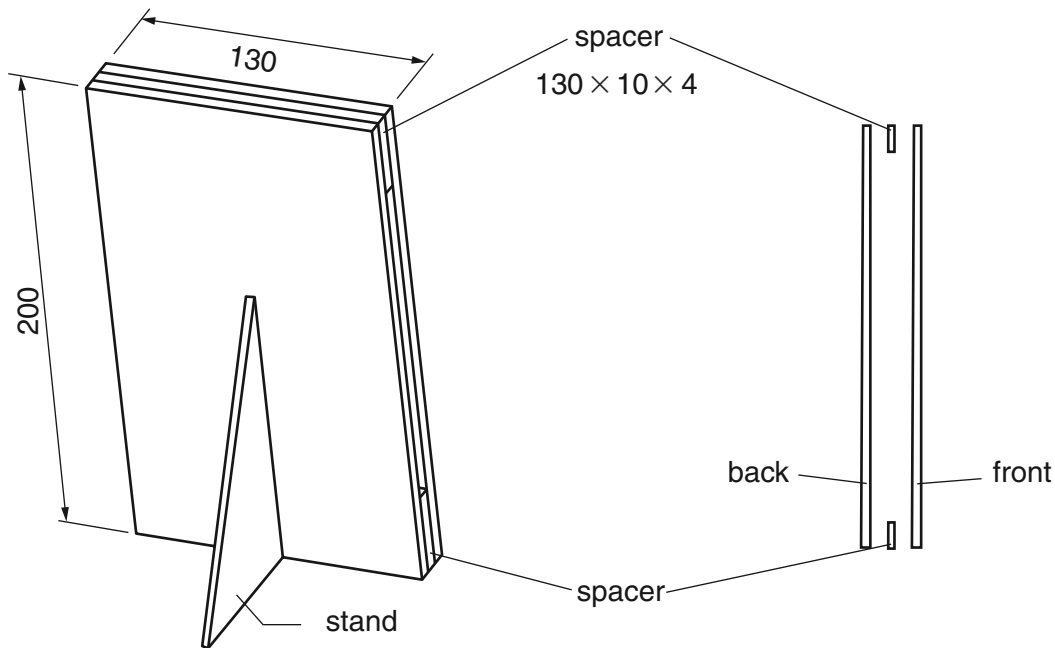
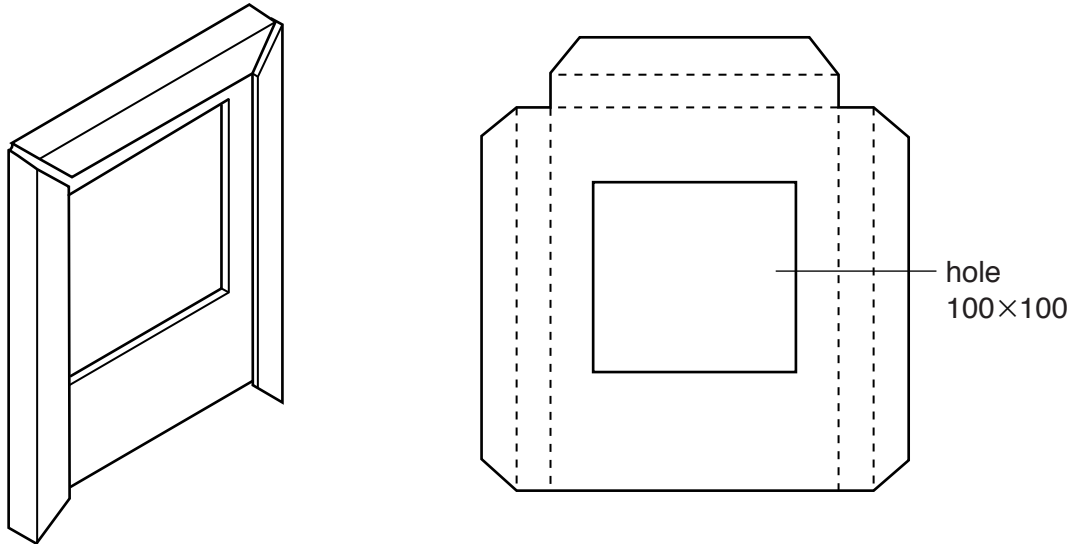

Fig. 6
Fig. 8
- 11 Fig. 6 shows detailed views of a photograph holder made from 4 mm thick clear acrylic.
- (c) Fig. 8 shows views of a photograph holder made from 1 mm thick aluminium sheet.
- (d) Use sketches and notes to show how you would cut out the square hole in the 1 mm thick aluminium sheet shown in Fig. 8.
(f) A batch of twenty identical aluminium photograph holders will be made in a school workshop. Use sketches and notes to show how the sides of the aluminium photograph holder, shown in Fig. 8, could be folded accurately.
(g) There are benefits of using CAD (Computer Aided Design) and CAM (Computer Aided Manufacture) when designing and making the photograph holders in Fig. 6 and Fig. 8.